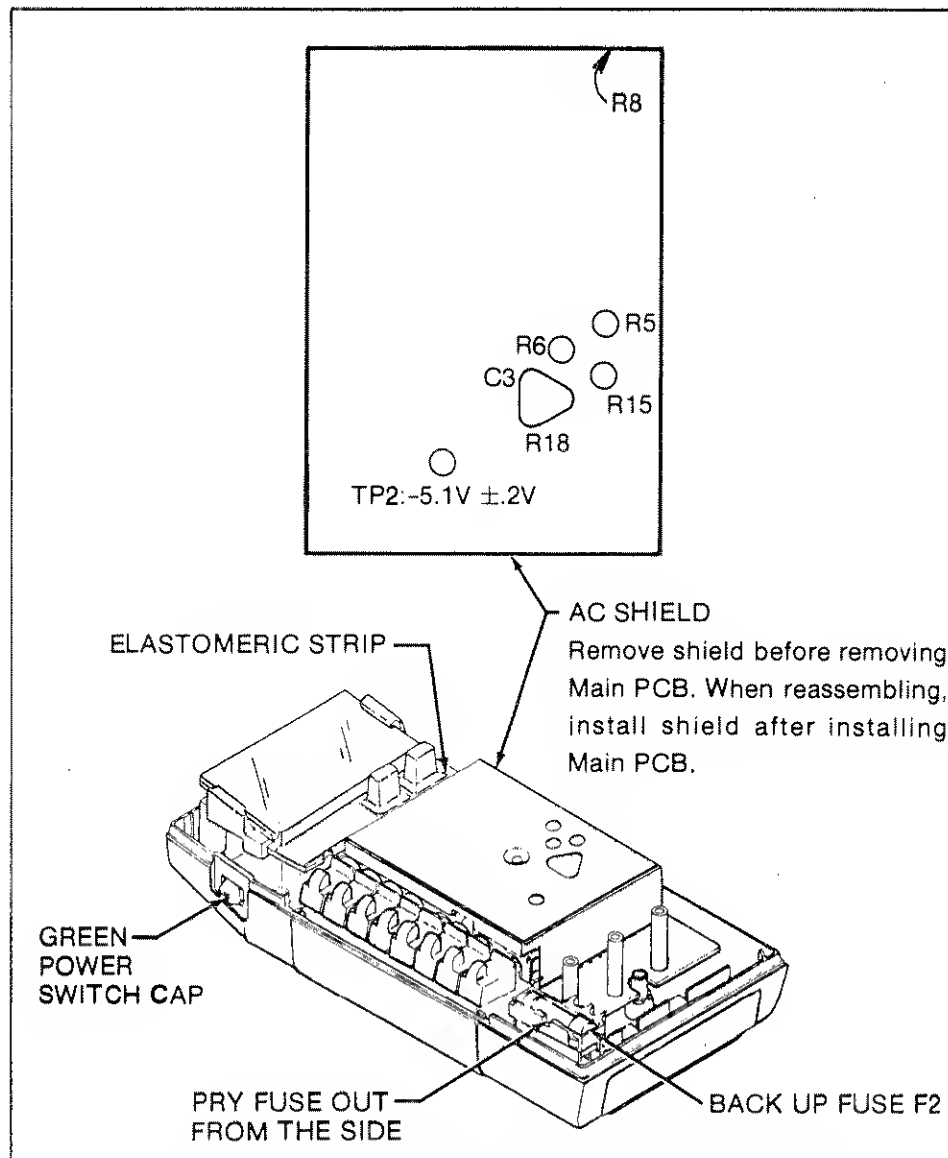

Figure 4-1. Calibration and Backup Fuse (F2) Access
3. Turn the instrument face-up and grasp the top cover at both sides of the input connectors. Then pull the top cover from the unit. The backup fuse and the calibration adjustments are now accessible (Figure 4-1).
The function buttons below the display are part of a single elastomeric strip (Figure 4-1) that is held in place by the top cover. When the top cover is removed, the elastomeric strip will be loose
2. Use a flat-tipped screwdriver to pry the fuse out of its fuse holder. Pry the fuse from the side as indicated in Figure 4-1.